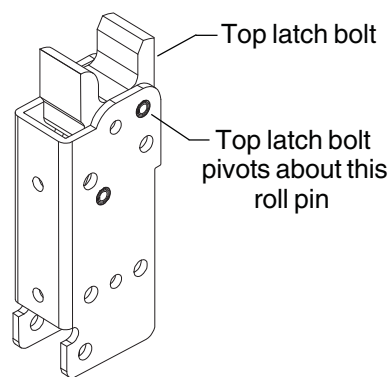

Figure 5-2
- 5.2. Dog the device and push the traveler against the lift arm while maintaining pressure on the traveler. Attempt to pivot the top latch bolt (See Figure 5-2). If the top latch bolt pivots freely, go to Step 5.3. If the top latch bolt drags or lifts the top rod, the top rod is too short. To determine how much to lengthen the top rod: